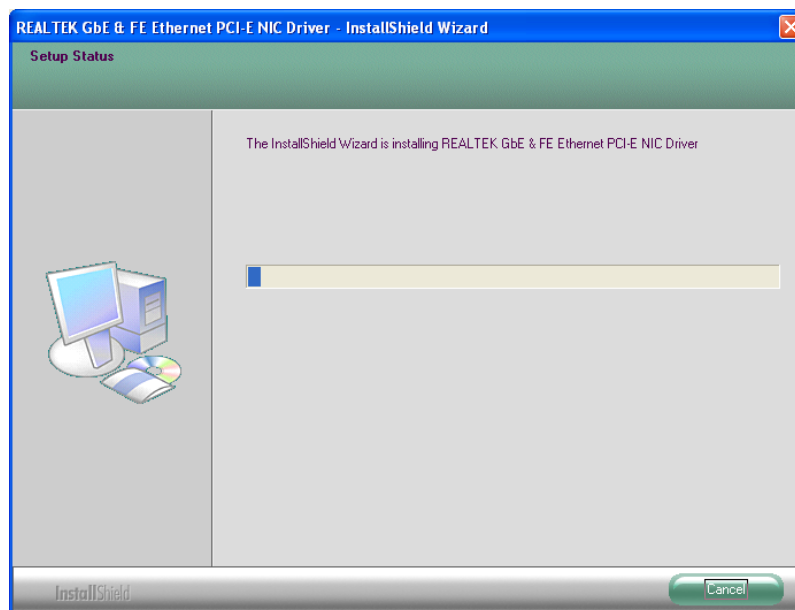

Figure 7-22: LAN Driver Installation
Step 8: The installation progress can be monitored in the progress bar shown in **Figure 7-22**.